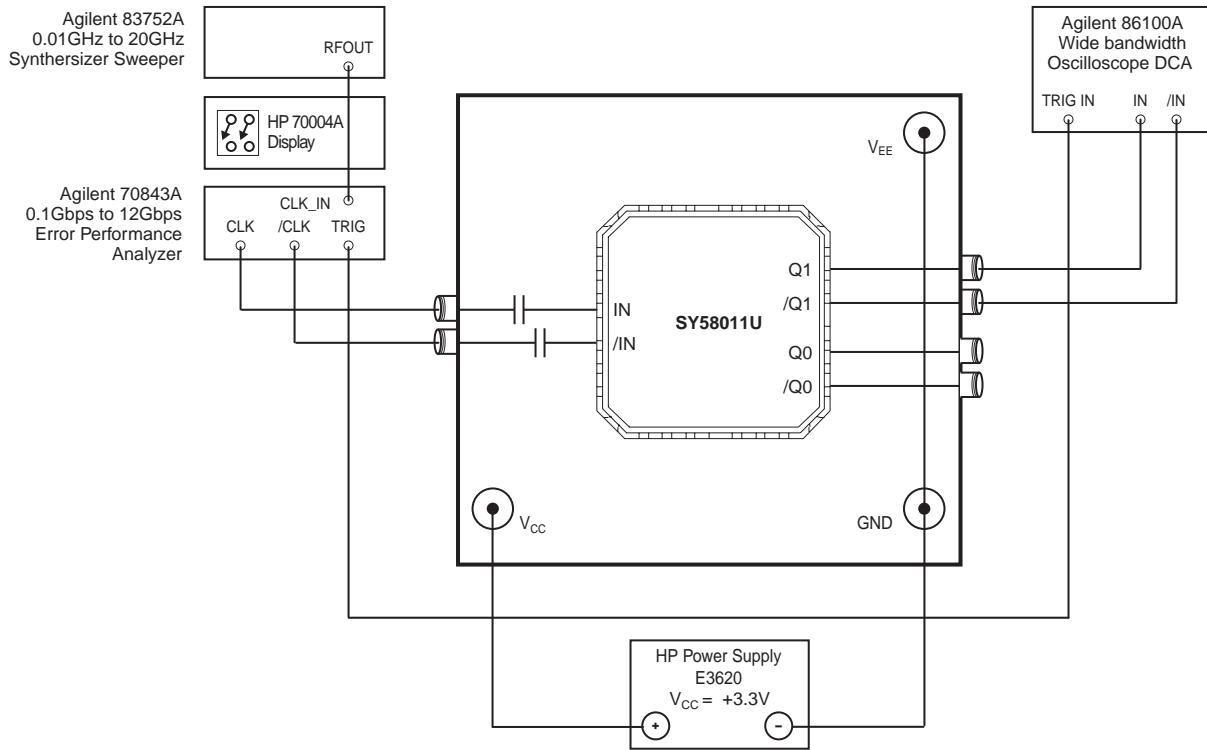
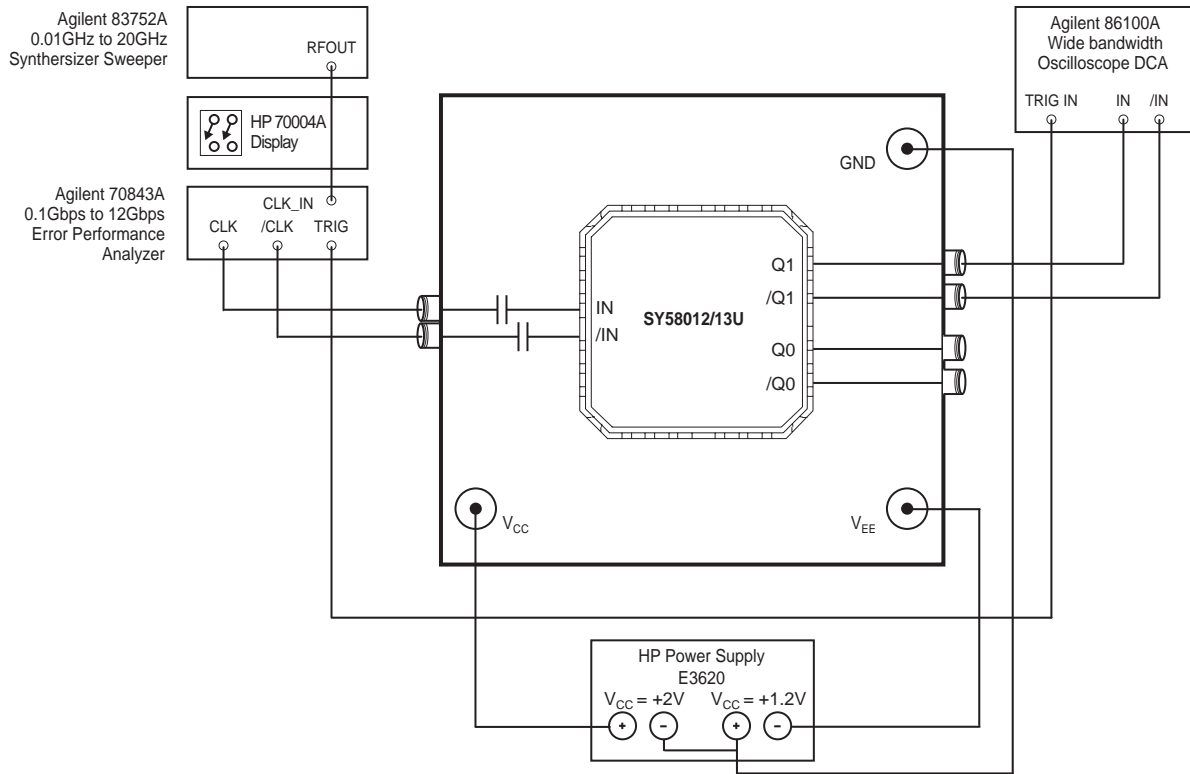

Figure 1. SY58011U Evaluation Board and DC-Coupled Test Setup (Eye Diagram and t_{pd} Setup)
Figure 3. SY58012/13U Evaluation Board and DC-Coupled Test Setup (Eye Diagram and t_{pd} Setup)
The SY58011U evaluation board as shown in Figure 1 has been designed with AC-coupled inputs and DC-coupled outputs. Additionally, the SY58012U and SY58013U as shown in Figure 3 have been designed with AC-coupled inputs, and DC-coupled outputs. The SY58011U, SY58012U, and SY58013U require a minimum of 100mV input signal to operate. The SY58011U CML outputs deliver 400mV swing into 50 Ω . The SY58012U outputs provide 800mV swing (100k compatible), and the SY58013U outputs provide a faster, 400mV LVPECL swing (100k compatible). Unused output pairs maybe left floating with no impact on jitter.
2. Using an Agilent BERT Stack (see Figure 1) connect OUT and /OUT to IN and /IN of the SY58011U.
2. Using an Agilent BERT Stack (see Figure 3) connect OUT and /OUT to IN and /IN of the SY58012U or SY58013U.